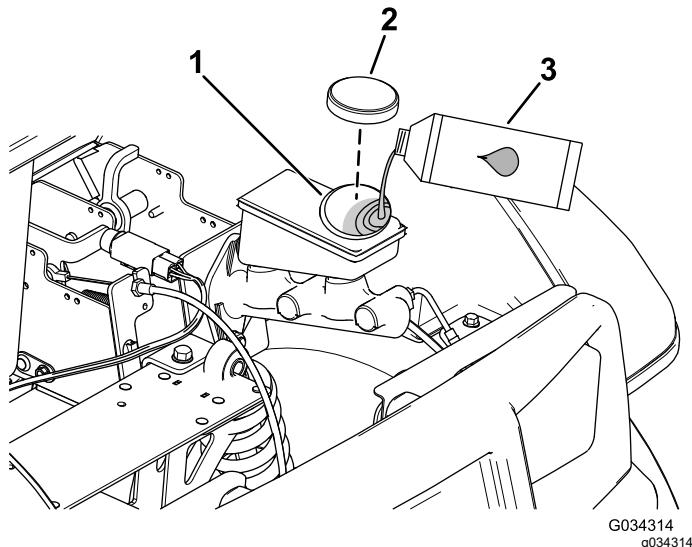

Figure 51
- Raise the hood to gain access to the master-brake cylinder and reservoir (Figure 51).
- Clean the area around the reservoir cap and remove the cap (Figure 51).
- Install the reservoir cap (Figure 51).